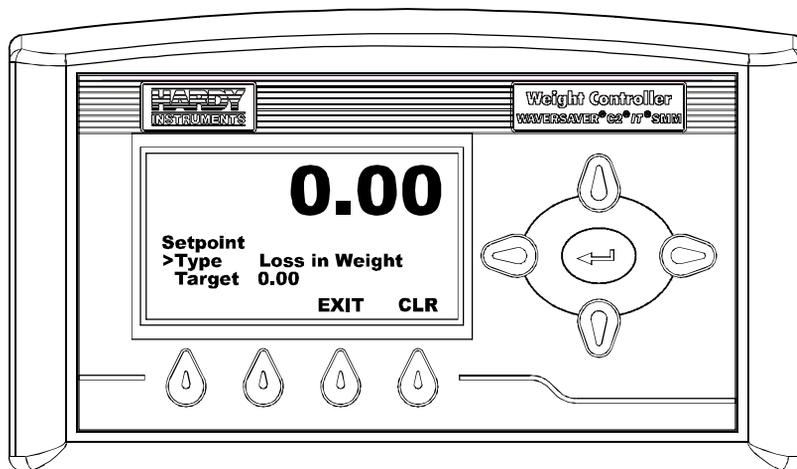

FIG. 366 SET POINT MENU/SELECTING LOSS IN WEIGHT
- Step 8. Press the Down Arrow button until the cursor is in front of “Type”. (See Fig. 366)